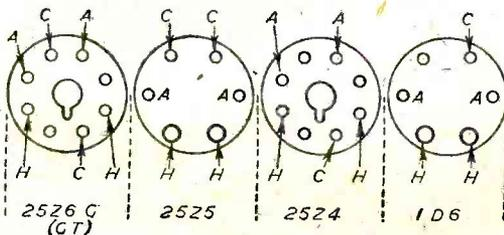

Fig. 10.—Connections to valve holders.
The connections to the 25Z6 G (GT), 25Z5, 25Z4 and 1D6 are given in Fig. 10.